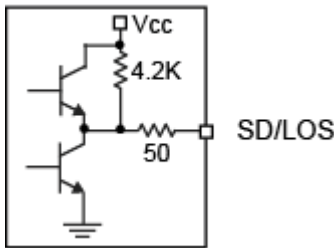

Figure 4. Simplified LOS/SD Output Structure
The SY88149NDL generates a chatter-free Signal-Detect (SD) or Loss of Signal (LOS) LVTTTL output, as shown in Figure 4. A highly-sensitive signal detect circuit is used to determine that the input amplitude is too small to be considered a valid input. LOS asserts high if the input amplitude falls below the threshold sets by LOS/SDLVL and deasserts low otherwise. SD asserts high if the input amplitude rises above threshold set by LOS/SDLVL and deasserts low otherwise. LOS/SD can be fed back to the JAM input to maintain output stability under the absence of an invalid signal condition. Typically, a 3dB to 4 dB hysteresis is provided to minimize or prevent chattering.